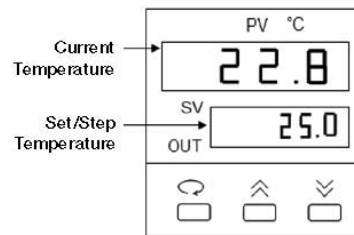

Fig. 1. Temperature Control Screen.
- The temperature control screen (see Fig. 1).
1. From the temperature control screen, use the arrow keys to adjust the Set Temperature to your desired target temperature in °C (Fig. 1)
**Note:** Following programming by default the controller displays the Step Temperature rather than the Set Temperature (see Fig 1. below). The step temperature is the next temperature value the system will reach as it heats/cool to reach set temperature. To display the Set Temperature press the  key.